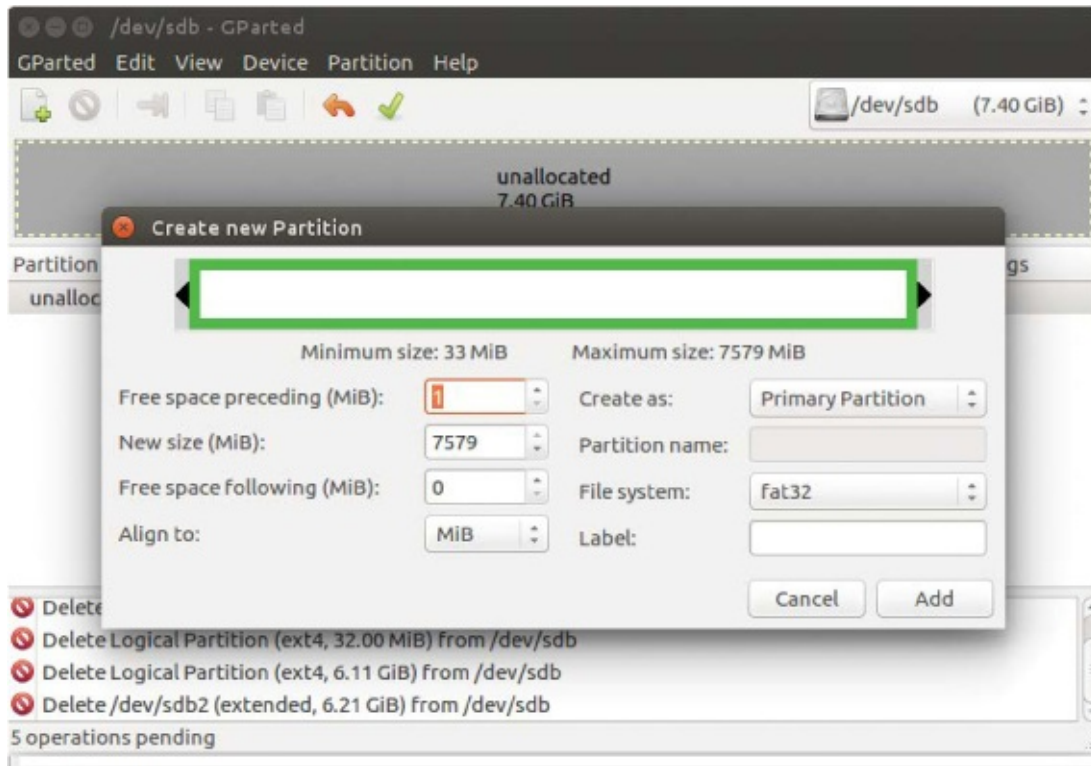

FIGURE 0-11: Creating a new microSD Card partition in GParted
6. Set the File system to **fat32**, enter the Label **BOOT**, and click the **Add** button, as shown in Figure 0-11. Last, click the green checkmark at the top of the main window to resume operation.